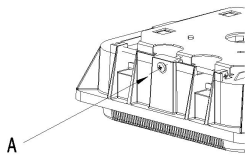

Figure 2
- STEP 1.** Loosen (but do not remove screw A (see Figure 2), which holds the mounting plate in place).
- STEP 1.** Slide the mounting plate toward Screw A, and then remove it from the luminaire body (see Figures 2 ,3&4).